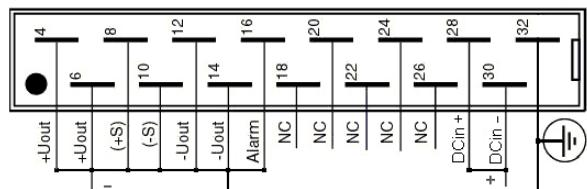
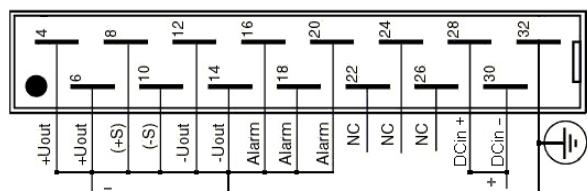

Figure 13. Input to output and input to case isolation voltage test.
Figure 14. Input to output and input to case with relay isolation voltage test.
2. Check *Figure 13* or *Figure 14* to include the alarm relay option. The relay outputs are insulated from output/input/case.
6. Raise the voltage of the isolation tester from 0 to 2500V a.c. The voltage should not be applied for more than one (1) minute or the Y-capacitors might be damaged.